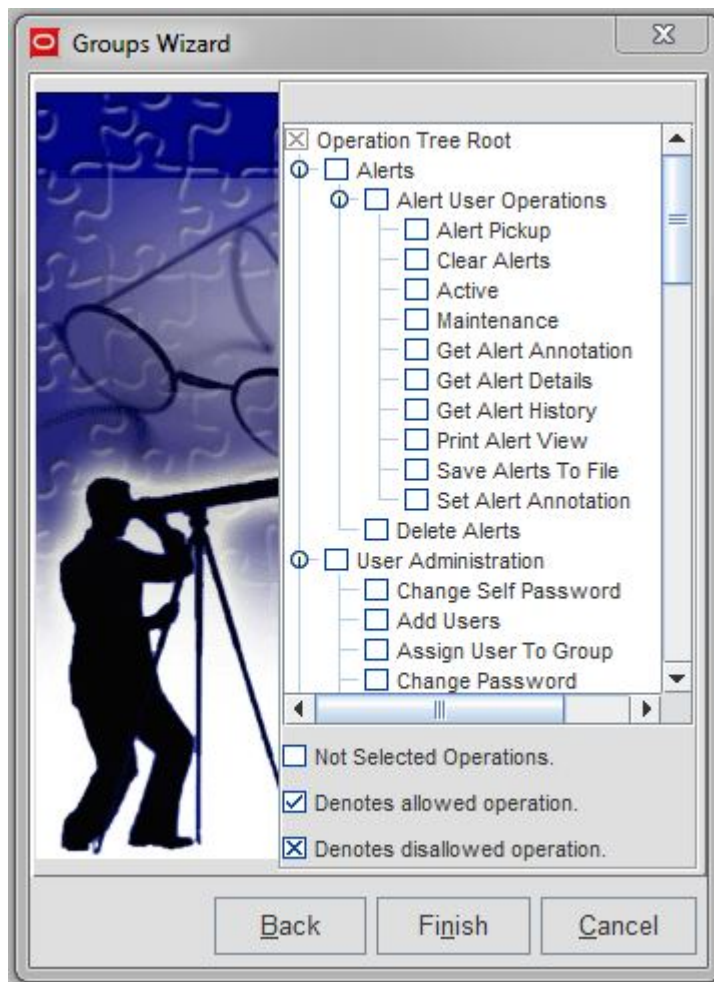

Figure 90: Usergroup Attributes
3. Click the **Next** button. A page similar to Figure 90: Usergroup Attributes is displayed.